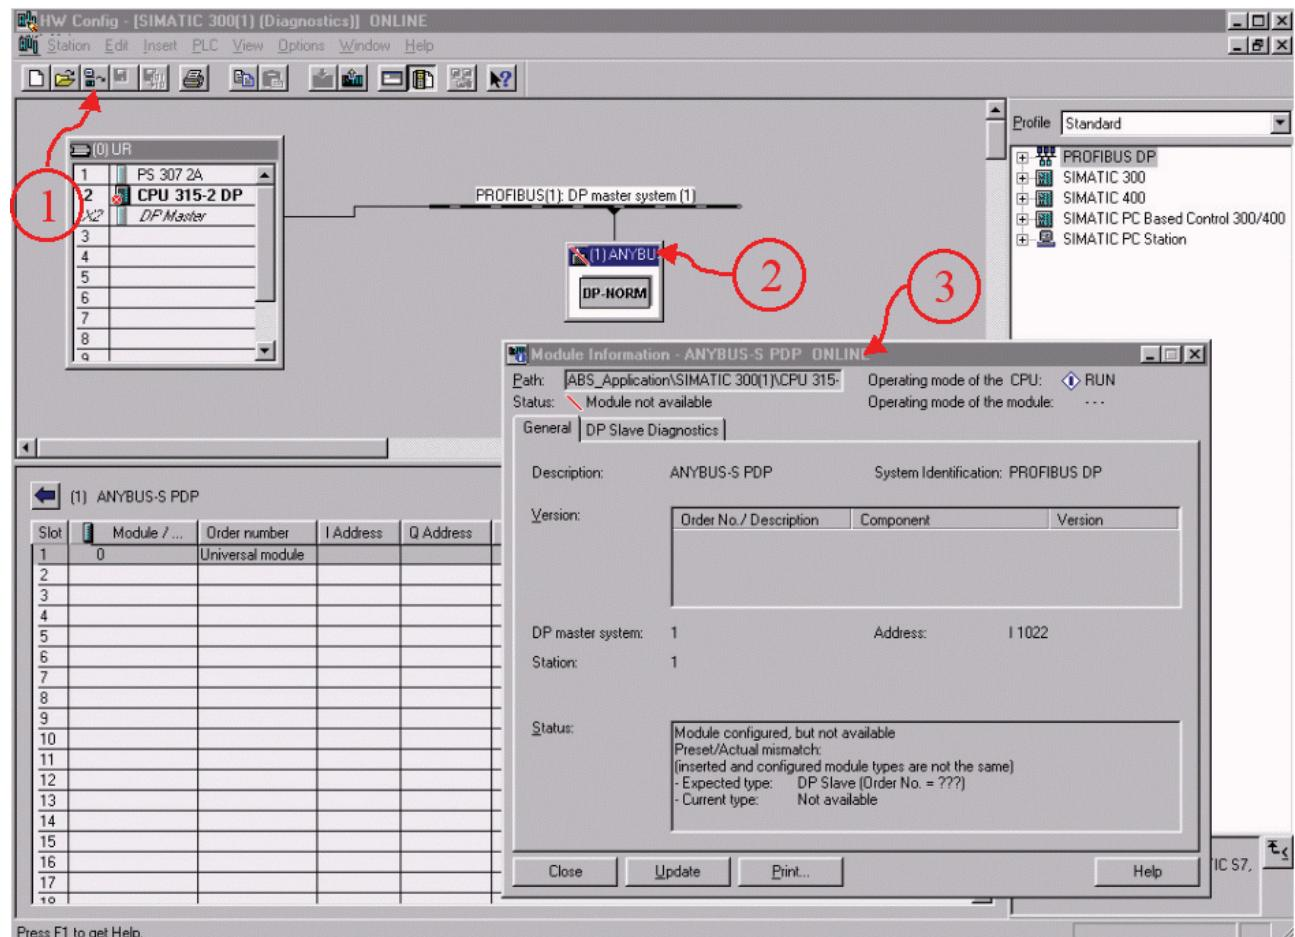

Figure 33 Step7 Hardware diagnostics.
Step7 and the HW Config program provide diagnostic possibilities via the PROFIBUS master over the network. Start with going online by clicking on the button ① in Figure 33. Then right-click on ② and chose "Module Information" and the diagnostic function will be started. The window ③ will be displayed and available diagnostics can be read out.